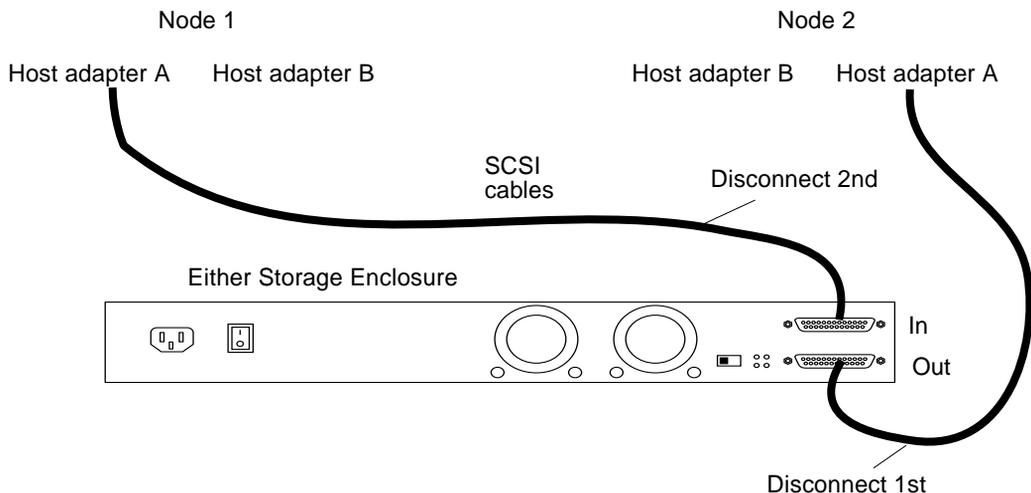

FIGURE D-7 Disconnecting the SCSI cables
- 3. Disconnect the SCSI cables from the Netra D130/StorEdge S1 enclosures, disconnecting the cable on the SCSI OUT connector first, then the cable on the SCSI IN connector second (see FIGURE D-7).**
6. Connect the SCSI cables to the new Netra D130/StorEdge S1 enclosures, reversing the order in which you disconnected them (connect the SCSI IN connector first, then the SCSI OUT connector second). See FIGURE D-7.